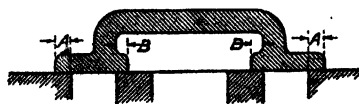
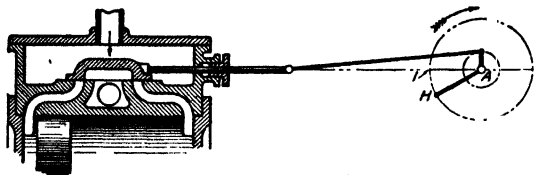

Fig. 17. Section of Slide Valve, Showing Steam and Exhaust Laps
Fig. 18. Elementary Slide Valve, Showing Effect of Adding Laps
**Effect of Adding Steam Lap.** To produce a short cut-off, what is known as outside lap or steam lap is added to the edges of the slide valve *A A*, Fig. 17. To produce compression inside exhaust lap *B B* is also added. Figs. 18 and 19 show how the valve mechanism is affected by these changes. In
Fig. 18 the piston is about to begin its stroke, but the valve is no longer in mid-position. Instead, the eccentric has had to be advanced through an angle, known as the "angle of advance", in order